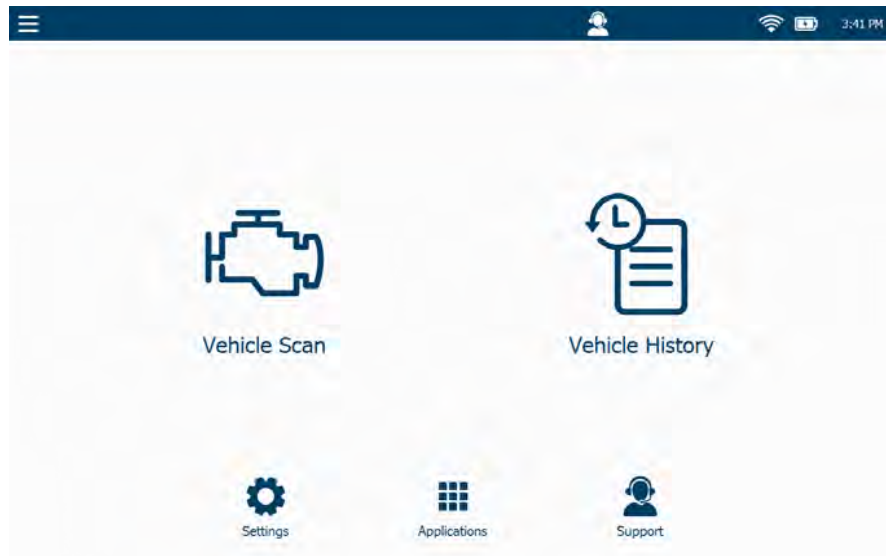

Figure 3.1 Main Menu
- 2 From the Main Menu (Figure 3.1), select **HD Scan**.